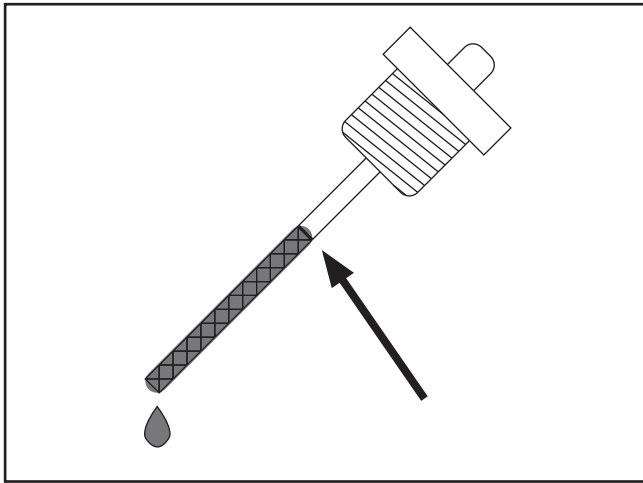

Figure 21. Correct engine oil level on the dipstick.
- Remove the dipstick/oil cap and fill with an SAE 10W-30 motor oil rated for diesel engines. Check the level on the dipstick frequently until full (**Figure 21**). Avoid over filling or seals may be damaged.